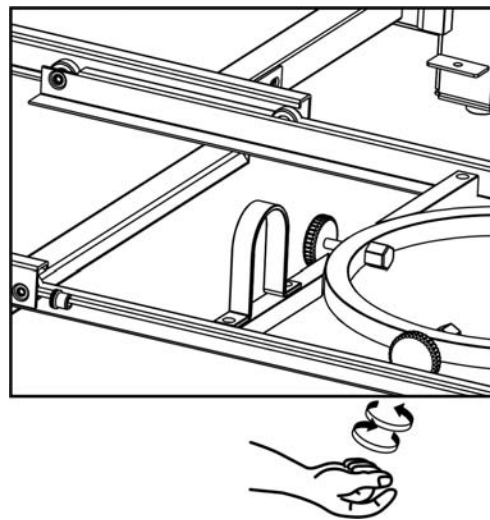

Figure 10
10. Tighten the threaded knobs (G) found on the tank tray (Figure 10) so that the LP tank cannot move from side to side. Do not remove the plastic cap from the end of the threaded section.